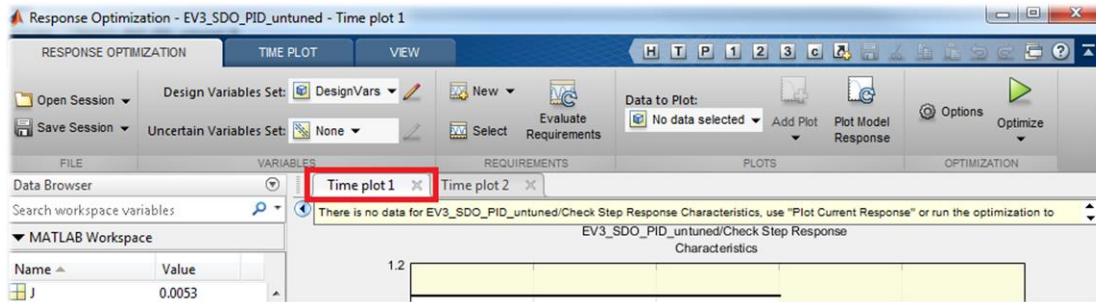

Figure 51 – Choose time plot
4. Click on the 'Time plot 1' tab to choose the step response characteristics to view. This is shown in Figure 51.